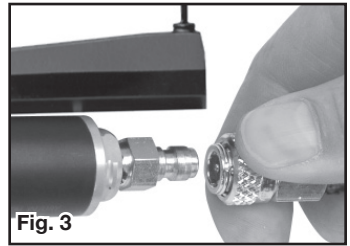

Fig. 3
- Connect the quick-disconnect fitting on the hand pump hose to the fill nipple (fig. 3.) by